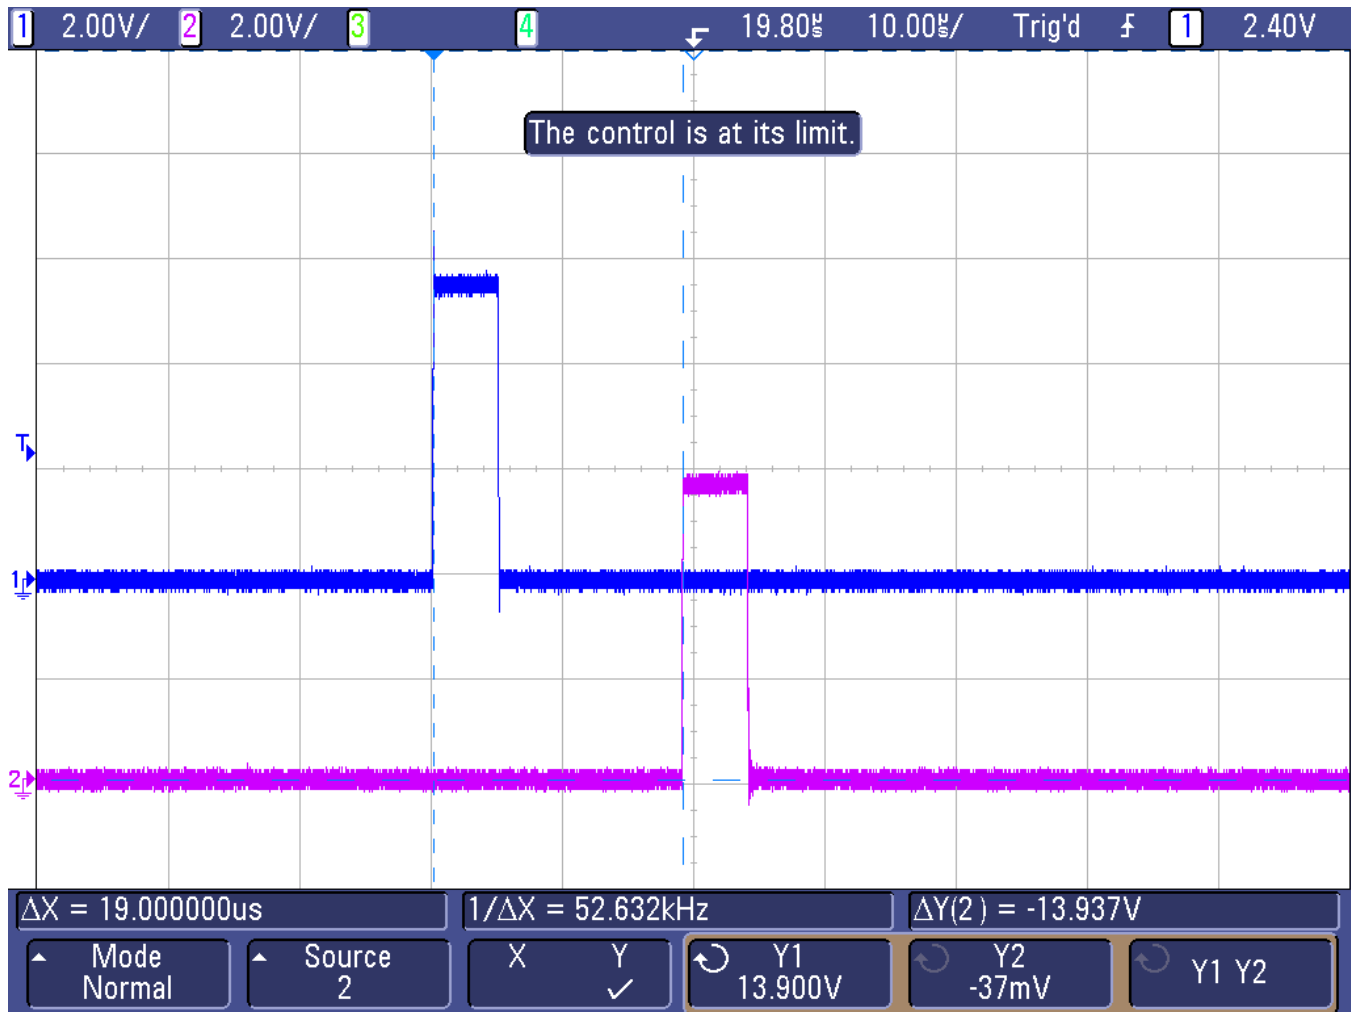

Figure 5. START and STOP Signals Scope Shot
- (a) Set channel 1 of the dual function generator to as follows (see Figure 5):
- (b) Set channel 2 of the dual function generator to as follows (see Figure 5):